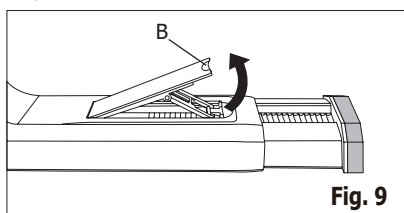

Fig. 9
1. Open the window sash and lift the locking lever of the window slider kit (Fig. 9)